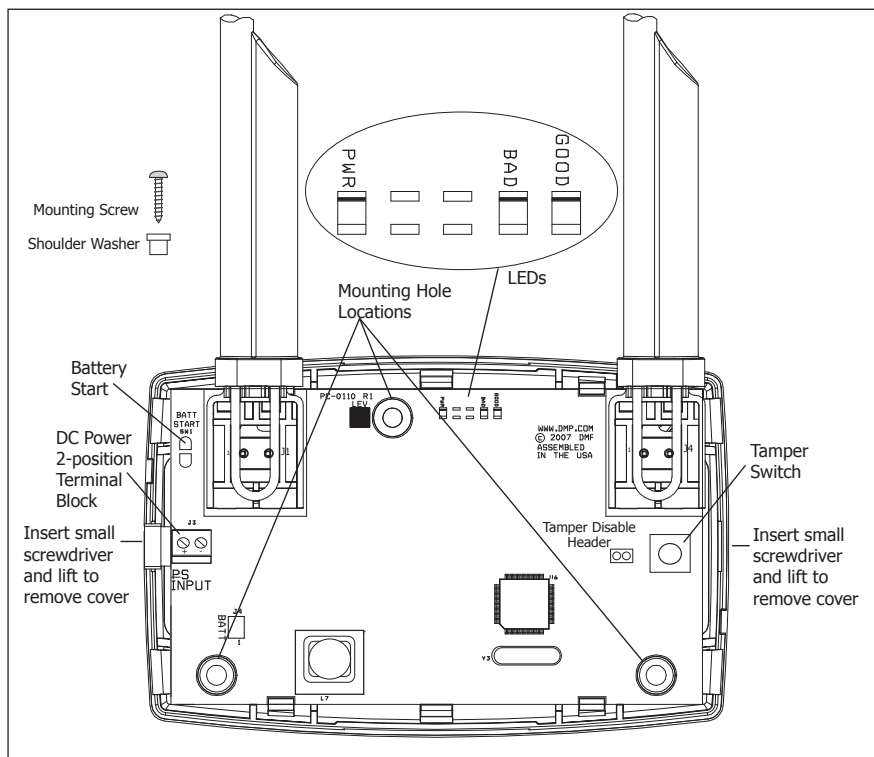

Figure 1: 1100R Repeater PCB Layout
The 1100R provides a survey capability to allow one person to confirm communication with the 1100 series receiver while the cover is removed. The 1100R provides the option to power up using the Lithium battery only for survey operation. Briefly short the Battery Start pads together to power up. Refer to Figure 1.
1. Insert a small screwdriver and lift as shown in Figure 1 to remove the cover.
2. Secure the receiver to the wall ensuring that the wall tamper switch makes proper contact with the wall. Use the supplied shoulder washers and screws in the mounting hole locations as shown in Figure 1.